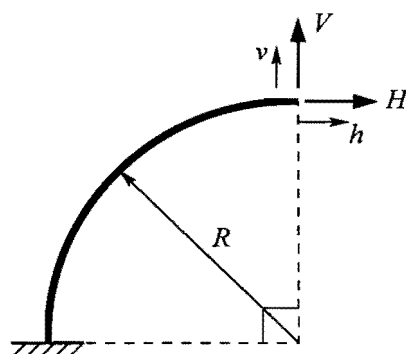

Figure 6
8. Figure 6 shows a curved cantilever of flexural rigidity EI ; its neutral axis coincides with one quadrant of a circle of radius R . For each applied load, H and V , separately, find the tip deflection components, h and v , by Virtual Work. Summarise your results in the following matrix form, and note the symmetry of the 2×2 flexibility matrix: